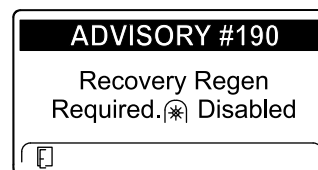

Figure 23
- Recovery regeneration required—power takeoff disabled ADVISORY #190 (Figure 23)